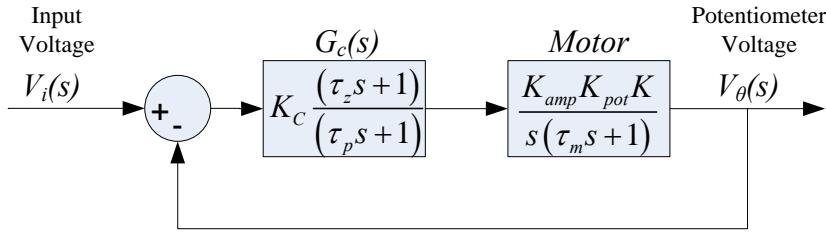

Figure 6.1: DC Motor Lead Controller System.
- (b) Consider the motor controller of Figure 6.1 using the proportional control  $G_c(s) = K_c$ . Develop a Bode plot of the resulting loop transfer function
Using the “Design Procedure for Lead Compensation” (see page 370 in 7th Ed. or page 416 in 8th Ed), design  $G_c$  to obtain this cross-over frequency and phase margin. To avoid poor response or control saturation, keep the DC gain in the range  $2 \leq K_c \leq 4$ . To prevent noise amplification keep your poles and zeros closer to the origin than 500 rad/s. As before, we are interested in the magnitude and phase characteristics of the open-loop response to determine the closed-loop response, using the feedback configuration illustrated in Fig. 6.1.
1. Generate a SIMULINK model of Figure 6.1; use the control block diagram and the gains in step (e) of the prelab. Use a **To Workspace** block to store the step response as “V”, and set the “Save Format” to **Array**. In the simulation parameters, use **ODE45** for the best results; to smooth out the curve, set **Max step size** to 0.01 or even 0.001. Also, change the stop time to shortly after the transient response finishes (a couple seconds).
8. In MATLAB, change the *Current Folder* (left-hand panel) to C:\matlab\ECE486\NETIDs\Lab6. Open the *Lab6\_Starter.slx* SIMULINK file by double clicking on it in the MATLAB panel. Then once this SIMULINK file opens, connect ports to corresponding signals to create a SIMULINK model that implements Figure 6.1. You may use a **Transfer Fcn** block for the controller. Set the gains to match the low-DC gain controller from part (e) of the prelab. Adjust the configuration to use **ODE1** with a *Timestep* of 0.002. Set the *Stop time* to 600s (do not go larger than this).